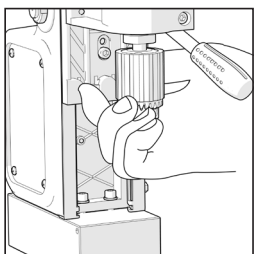

FIG. 9
- Screw the chuck onto the main drive spindle. (**Fig. 9**)
(6) MAINTENANCE